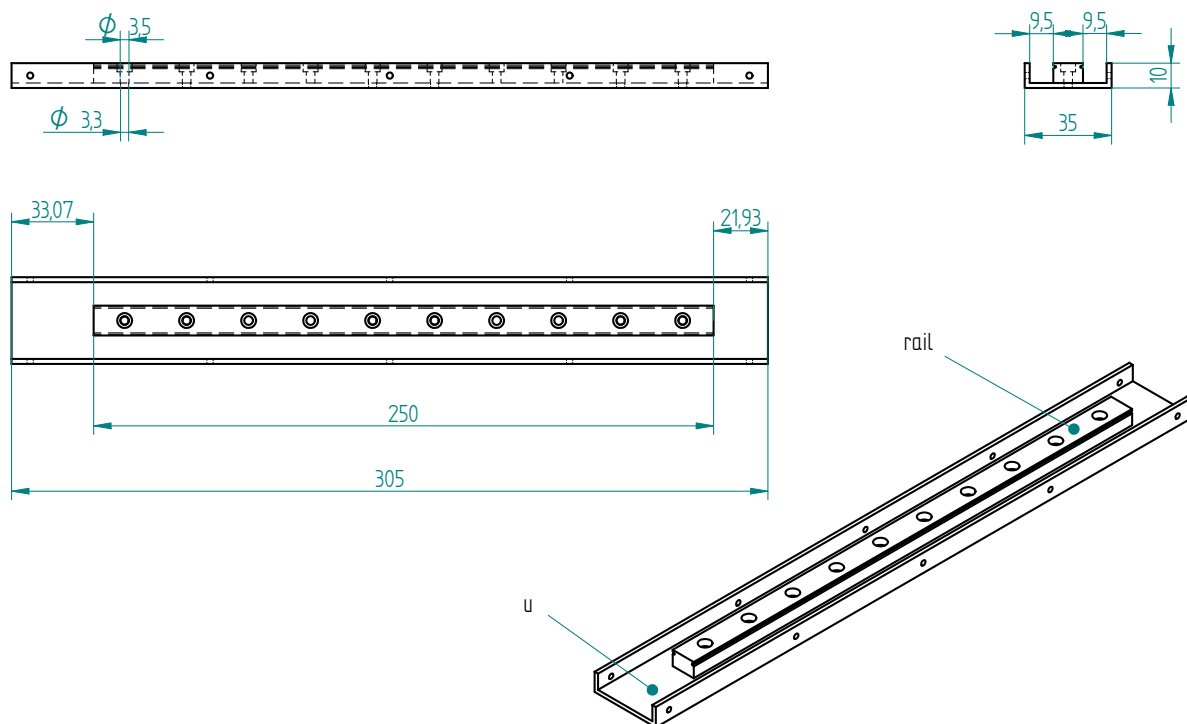

Figure 1.5: Center punch the 3.3 mm hole through the rail using a 3.5 mm drill bit
7. clamp the **rail** in the correct position using a **gauge** (make sure it's centered), see Figure 1.5, page 16 ;